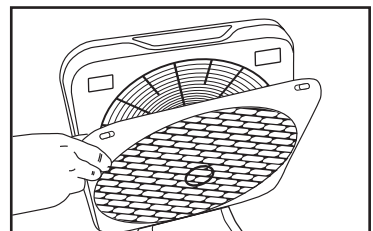

Fig. 8
2. Pull the grill away from the body until the tabs at the bottom of the grill plate easily slide away from the unit. See Fig. 8 & 9